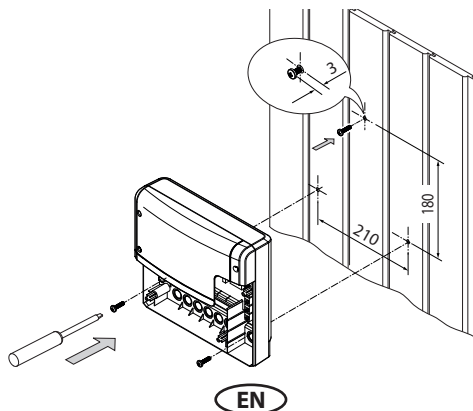

Fig. 2
2. The relay box has three mounting holes on the rear side. Refer to fig. 2 below for dimensions in order to mark the position on the wall (template). The central upper screw shall be used to hang the relay box onto it with the corresponding opening on its rear side. Two lower screws shall be used to secure the housing to the wall after it is hung on the upper screw.